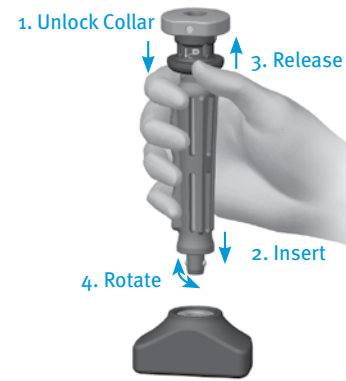
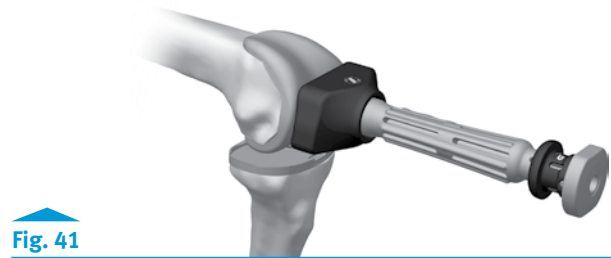

Fig. 40
Fig. 41
- With the knee in 70°-90° of flexion, retract the soft tissue in the desired manner. Attach the Femoral Inserter/Extractor to the femoral component (Fig. 39a & 39b). Insert the femoral component onto the distal femur by translating the component laterally until the lateral peg aligns with the drill hole in the lateral femoral condyle. Take care to avoid scratching the implant component surfaces. After the femoral component is placed on the femur and the inserter/extractor is removed, the impaction head/inserter assembly can be used to impact the component onto the femur. If this insertion/impaction method is used, the inserter handle must be in the closed and locked position. Ensure that soft tissue is not trapped beneath the implant. Alternatively, assemble the Quick Connect Handle to the Femoral Impactor Head (Fig. 40). Use the Femoral Impactor Head assembly to fully seat the femoral component (Fig. 41). Remove retractors, and check the medial and lateral sides to make sure the femoral component is fully impacted distally.